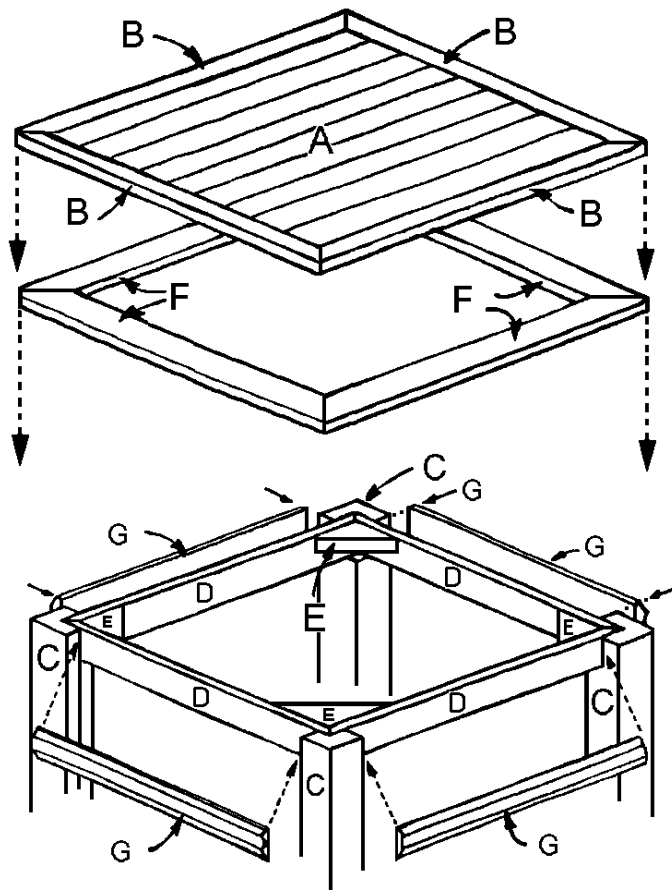

Figure 4
3. Cut four side rails (D) from 1 x 4 pine, each 45-1/2" long. Setting each piece on its edge, miter both ends of each side rail (D) at a 45-degree angle, as shown in *Figure 4*.
4. This next step probably requires the assistance of a willing helper (or an unwilling helper and a baseball bat), and it should be performed on a level surface. Each of the legs (C) must be connected to the side rails (D), and the entire assembly must be perfectly level. It is easier to make certain that you have everything level if you perform the assembly with the legs upside down.
5. Carefully fit two of the side rails (D) inside the opening that you previously cut in the legs (C), matching the mitered ends. (Refer to *Figure 4*.) Glue and screw them in place using three 2"-long screws in each of the side rails (D). Repeat the process with the remaining three legs (C) and the remaining side rails (D).
6. Cut four triangular corner supports (E) from the 2 x 6 pine. These should measure 5-1/2" on the two short sides. Glue and screw them in each of the four corners, as shown in *Figure 4*, using four 3"-long screws in each corner support (E).
7. Cut four top trim pieces (F) from 1 x 4 pine, each 50" long. Setting each piece on its face, miter both ends of each trim piece (F) at a 45-degree angle as shown in *Figure 4*. Fasten the top trim pieces (F) to the legs (C) and to the side rails (D) using glue and screws. Use two 3"-long screws to connect each end of each top trim piece (F) to the legs (C). Use 2"-long screws spaced about 6" apart to connect the top trim piece (F) to the side rails (D). The top trim pieces (F) should overhang the legs by 1/2" on the edges.